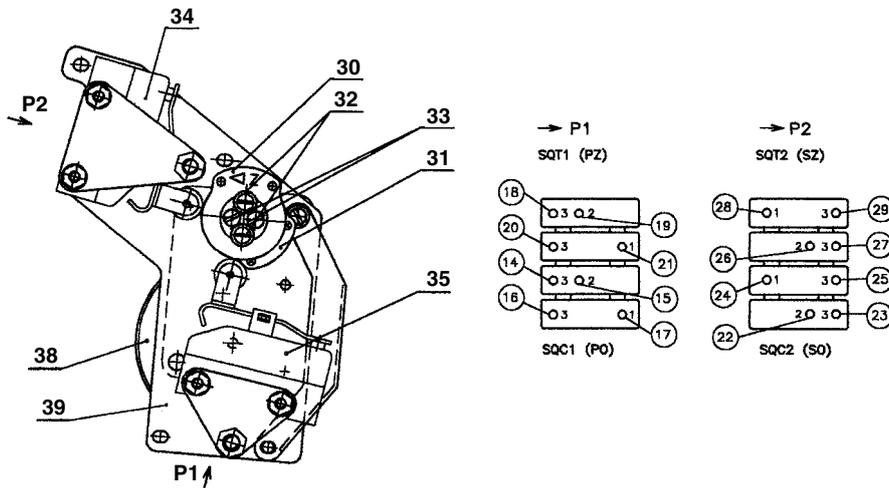

Fig. 3 – **Position-limit switching and signalling unit**
b) Position-limit switching and signalling unit - Fig. 3 – provides for tripping of the position-limit switches PO or PZ after the set number of revolutions of the output shaft has been reached and, by means of signalling switches SO and SZ, sending electric signal for signalization of position of the output shaft of the actuator. The unit drive is realized by gearwheel -38- from the output shaft via the multi-speed gearbox to cams controlling micro-switches PO, PZ, SO, SZ. The moment of closing of the signalling switches can be chosen at any point of the working stroke of the actuator except for a narrow range around the limit positions (the signalling switch must close before the position-limit switch when the output shaft is still in motion).
Layout of the cams and micro-switches of the position-limit switching and signalling unit is shown in Figs. 3 and 4. The cam shoulders control the levers of micro-switches PO, PZ, SO and SZ.